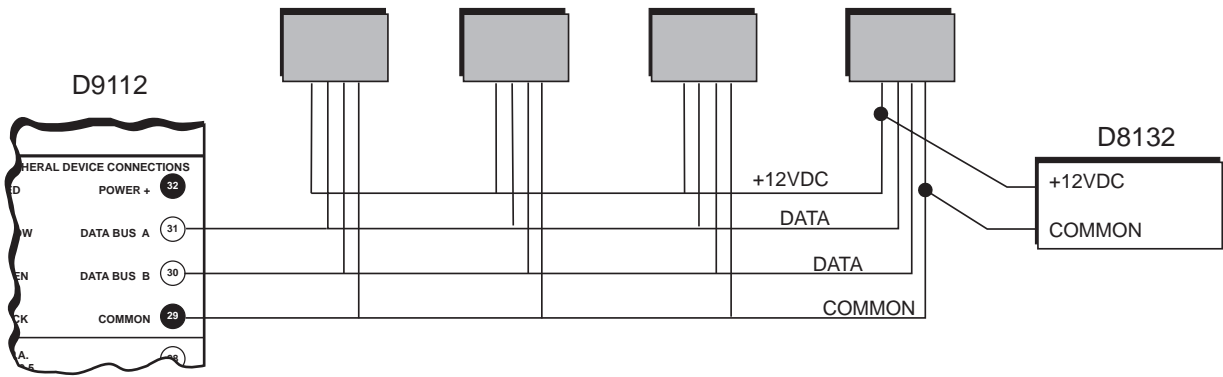

Figure 19: Power at Command Centers
You may need to add one or more D8132 Battery Charger/Power Supply Modules for the number of command centers you want to use. Figure 19 shows the D8132 powering command centers in a stand-alone configuration.
**D9112 and D8132 (or other power supply) must share COMMON:** Note that Figure 19 shows the common from the D8132 module connected to both the command centers' common and the common on the D9112.